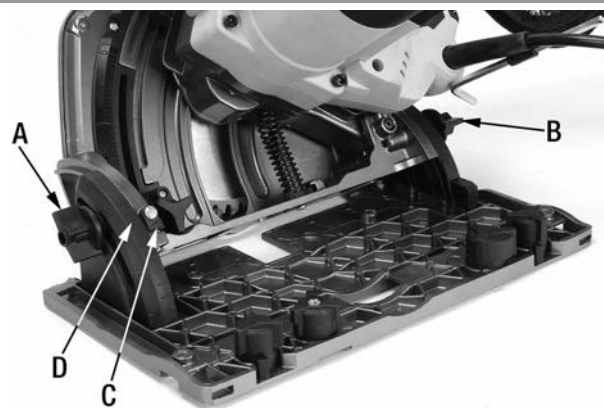

FIGURE 6
- 2) Loosen the front bevel lock knob (A) Fig.6 and the rear bevel lock knob (B). Tilt the saw until the pointer (C) lines up with your desired cutting angle on the bevel scale (D). Retighten both bevel lock knobs.
- 3) The bevel pointer (C) Fig.6 is set properly at the factory. After prolonged usage, if the pointer is not accurate, it should be adjusted properly. Make a test cut, verify the bevel angle, if an adjustment is needed, loosen pointer screw and reposition the pointer. Retighten screw once adjustment is made.